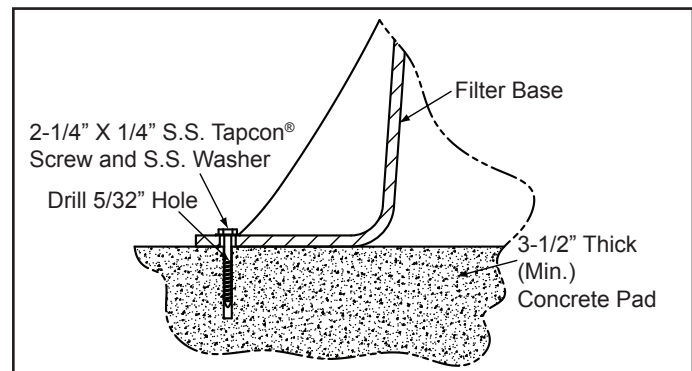

Figure 3. Filter to Platform Installation
Install the Tapcon screws and washers through each of the four (4) holes to secure the filter to the equipment pad. See Figure 3. **Do not over-torque the screws.**